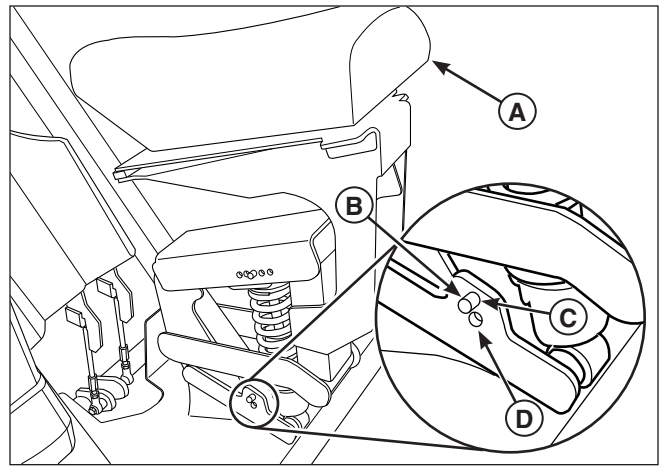

Figure 27. Seat Height Adjustment
The height of the seat (**A**, **Figure 27**) can be adjusted either up or down to accommodate the operator's comfort level.
1. Remove the seat height adjustment hardware (**B**, **Figure 27**).